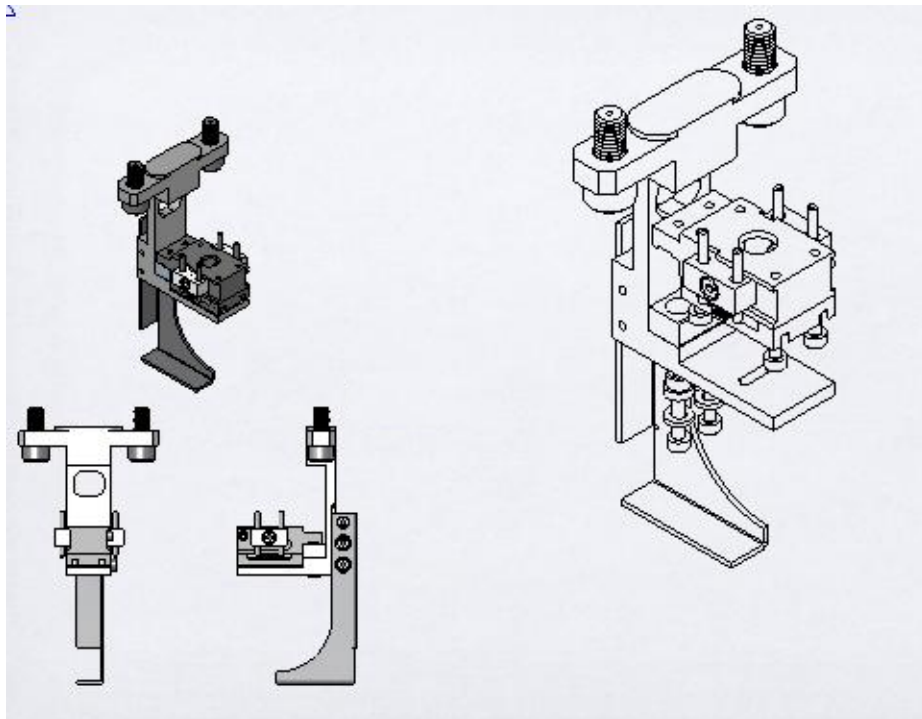
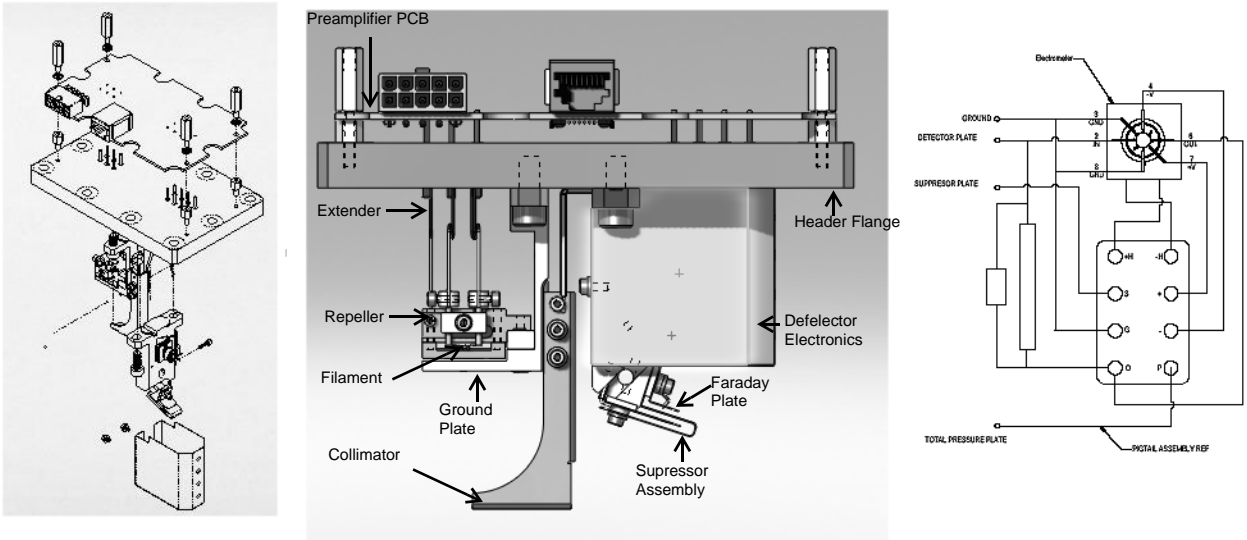
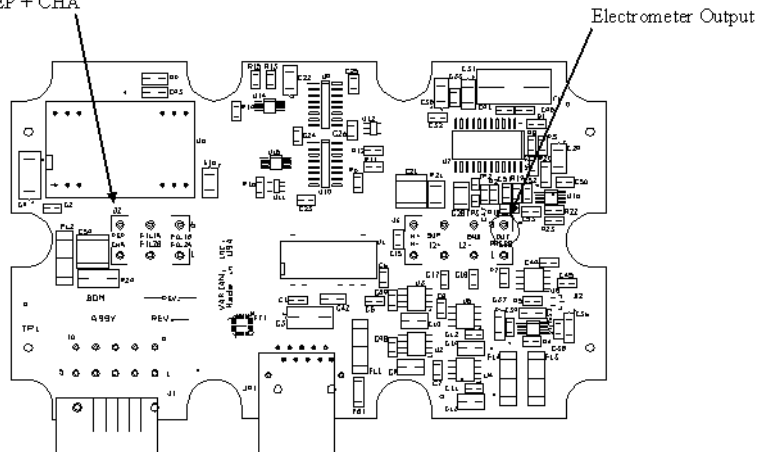
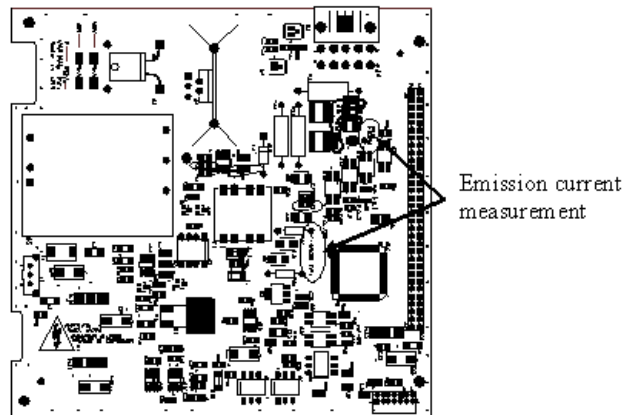

Figure C-1 Spectrometer (Ion Source Assembly)
Figure C-2 Spectrometer Header: Decomposition
Figure C-3 Pre-Amp Board - Measurement Points
Figure C-4 Ion Source Board - Measurement Points
- a. Disassemble the spectrometer header from the spectrometer body and inspect the total pressure plate (Figure C-1 and Figure C-2).
3. Pre-amp board failure (Figure C-2 and Figure C-3):
- ❑ Spectrometer - Pre Amp Board (Figure C-2 and Figure C-3 on page C-7): Measure the J2 connector filament resistance (with power off) (filament resistance < .5 Ohm). If filaments are open circuit, open the spectrometer and replace the filaments. See Section B.13 “Filament Replacement”.
- ❑ Run a full calibration (Figure C-2 on page C-7 and Figure C-3 on page C-7) and after a successful pass, measure the voltage of the filament that is in use on the Pre-Amp board J2 connector (Spectrometer Header). The filament voltage should = 1.4 to 1.9 VDC with < 30 mV of noise (AC). If not, go to the *Manual Tuning* screen and adjust the *Emission Current* until the AC ripple is < 50 mV and the filament voltage is 1.4 to 1.9 VDC.
- a. Refer to step 2b for steps to measure filament resistance, ion voltage and filament voltage. Verify (Figure C-3 on page C-7 and Figure C-1 on page C-6):
- b. *Select Setup Menu > Manual Tuning* and note the *Emission Current* setting. Measure the emission current on the Ion Source board (Figure C-4 on page C-12) at test points EMISS T.P and TP101 FIL GND. The measured voltage should correspond to the noted reading (within +/- 10%). If emission current < .3 mA or zero, inspect the spectrometer for contamination (if necessary, replace the ion source). See Figure C-1 on page C-6 and Figure C-2 on page C-7.
- Switch filaments and re-calibrate and if the second filament fails, inspect the ion source and filaments and replace (Figure C-2 on page C-7). See Section B.13 "Filament Replacement".
- Inspect ion source and if contaminated (discoloration), clean ion source or replace (Figure C-1 on page C-6).
- On the J3 connector of the pre-amp board (Figure C-3 on page C-7), measure the voltage (with respect to ground) on the pin labeled OUT. The voltage should be in mV DC with no leak present.
- 11.00 VDC, remove the ion source voltage cable (J1 connector) on the pre amp board (Figure C-3 on page C-7) and re-measure the OUT pin voltage.
- b. Measure test points EMISS T.P and TP101 FIL GND (*Emission* current) on the Ion Source board (Figure C-4). The measured voltage should correspond to the observed reading in the *Manual Tuning* screen (within +/- 10%). If the measurement voltage (*Emission* current) is > 2.0 VDC and cannot be adjusted, replace the Ion Source board.
4. Pre-Amp board failure (Figure C-3 on page C-7):
- a. Open the *Manual Tuning* menu and adjust and measure the emission current (Figure C-4 on page C-12), to minimize the emission current to < 30 mVAC.